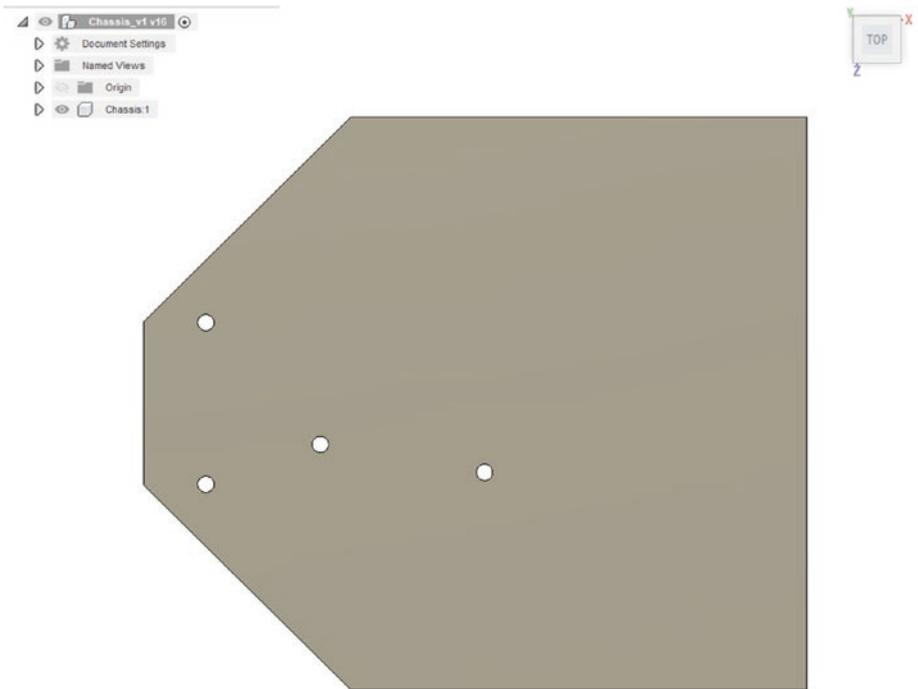

Figure 6-56. Add two 50mil chamfers
11. Make a 50mm chamfer  Chamfer at the front of the chassis. See Figure 6-56.